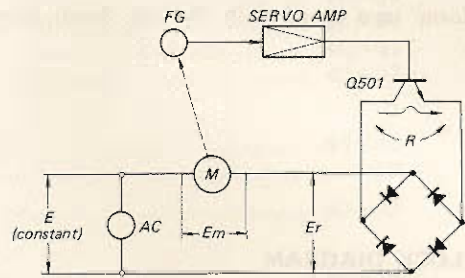

Fig. 1-2. Q501 for resistance R
The frequency generator (FG), built in the motor, is used to detect the motor speed variation. The servo amplifier changes the resistance referring to the deviation. As the resistance R , the impedance R between the collector and emitter of the transistor (Q501) is used. See Fig. 1-2. The impedance R is varied by the base voltage. The constant motor speed can be obtained by varying the base voltage according to the motor speed deviation. The bridge type rectifier, consisting of the four diodes,